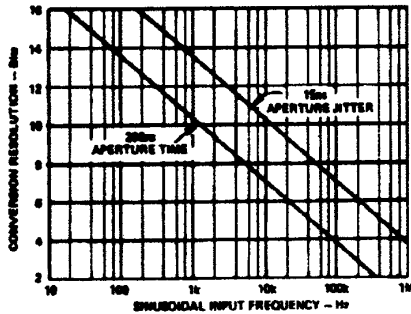

Figure 5. Maximum Frequency of Input Signal for 1/2 LSB Sampling Accuracy
**Aperture Delay** is the time required after the "hold" command until the switch is fully open and produces a delay in the effective sample timing. Figure 5 is a plot giving the maximum frequency at which the AD582 can sample an input with a given accuracy (lower curve).
**Aperture Jitter** is the uncertainty in Aperture Time. The Aperture Time can be eliminated by advancing the sample-to-hold command 200ns with respect to the input signal. The Aperture Jitter now determines the maximum sampling frequency (upper curve of Figure 5).